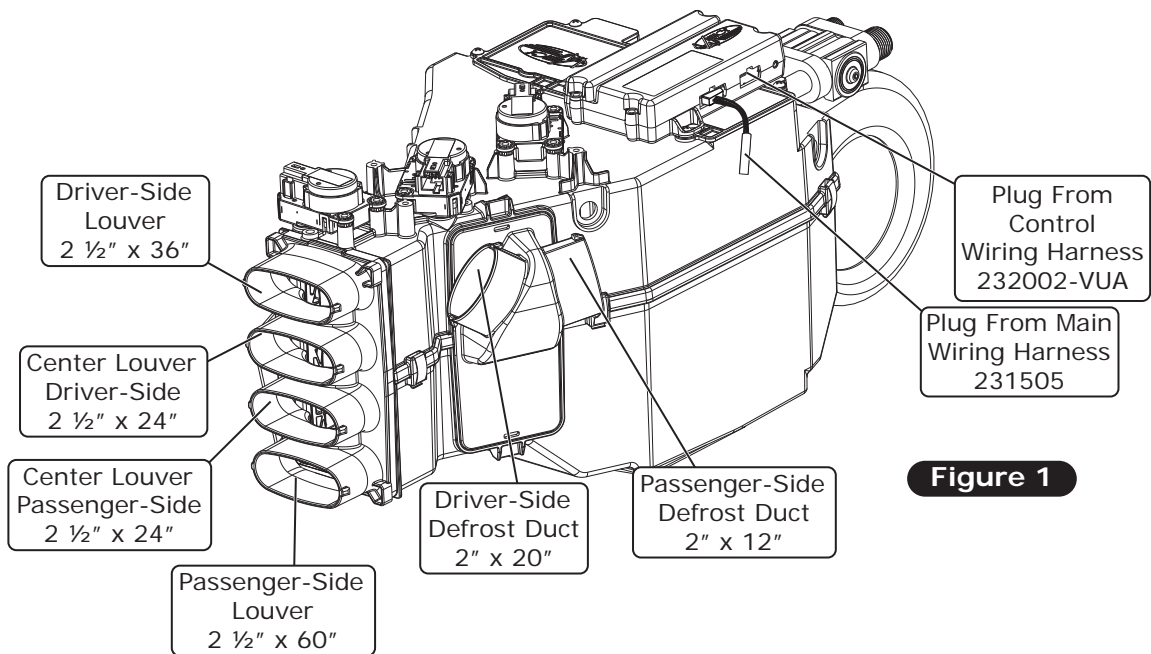

Figure 1
2. Install the new glove box and glove box door using OEM screws (See Figure 1, below).